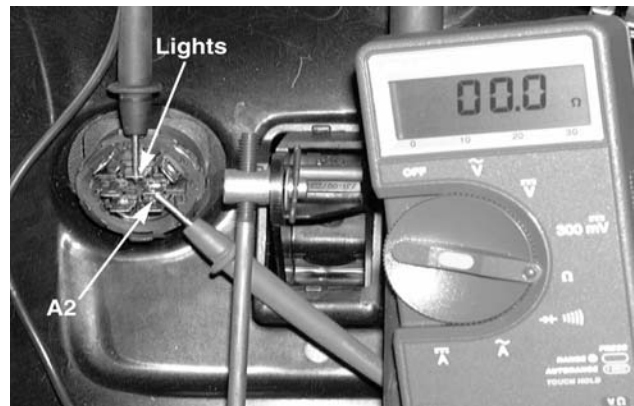

Figure 9-89
–There will be **CONTINUITY**. See Figure 9-89.